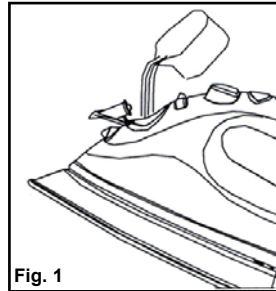

Fig. 1
1. Open the water filling inlet cover. Holding the iron at a slight angle, pour water slowly into the water filling inlet. See figure 1. Fill tank to desired level or to the "MAX" water level marking using the water filling flask. (When the iron is upright, the see-through water tank allows you to gauge the amount of water.) **DO NOT** overfill the tank. When finished filling the iron with water, close the water inlet cover before continuing.